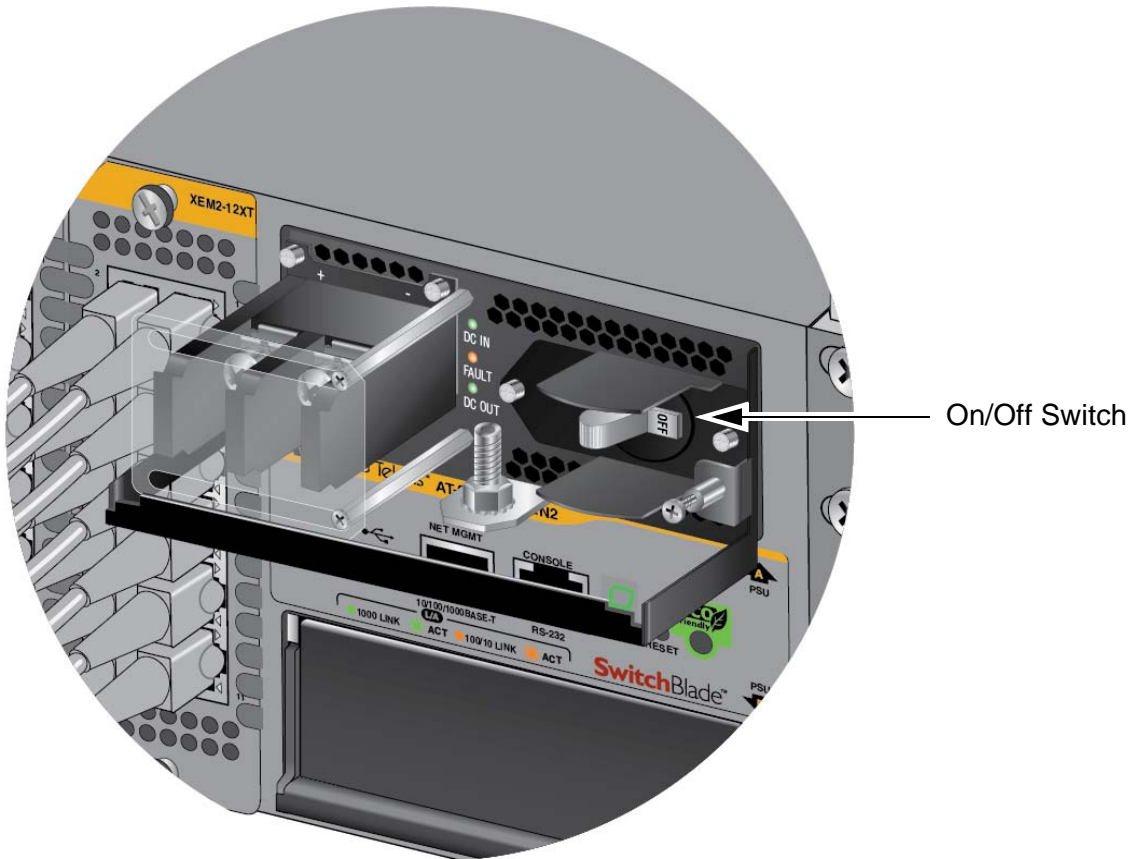

Figure 54. On/Off Switch on the AT-SBxPWRSYS1-80 DC Power Supply
3. Verify that the On/Off switch on AT-SBxPWRSYS1-80 DC Power Supply is in the Off position. Refer to Figure 54.
2. Verify that the On/Off switch on AT-SBxPWRSYS1-80 DC Power Supply is in the Off position. Refer to Figure 54 on page 87.
3. Verify that the On/Off switch on AT-SBxPWRSYS1-80 Power Supply is in the Off position. Refer to Figure 54 on page 87.
14. Turn the On/Off switch(es) on the AT-SBxPWRSYS1-80 DC Power Supply(ies) to the On position. See Figure 54 on page 87.